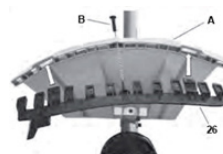

FIG.3-3
When using the cutting line head, the additional guard, with line cutting knife, must always be fitted. (Fig.3-3, Fig.3-4)
Secure the additional guard (26) using the screw (B). (Fig.3-3)
1. Screw off the screw (B); (Fig. 3-3)